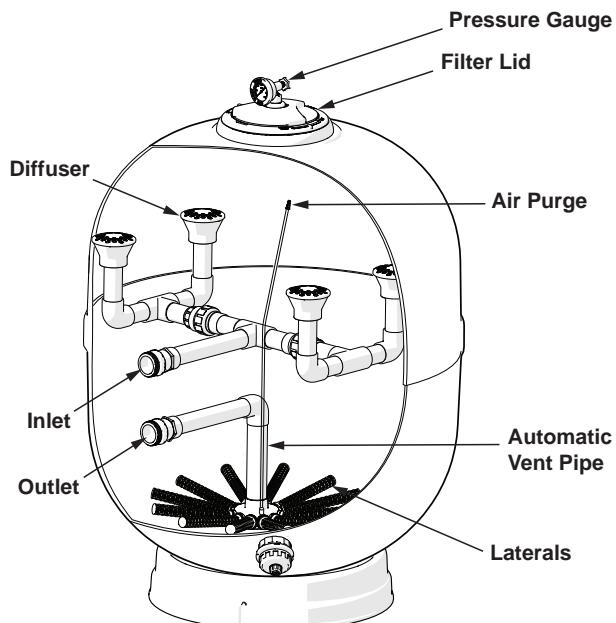

Figure 6. Automatic Air Relief
9. Check to ensure the vent tubing is appropriately positioned in the tank. See **Figure 6**.